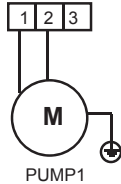

Fig.6-11
• Using the appropriate cable, connected the pump cable to the terminals as shown in Fig.6-11.